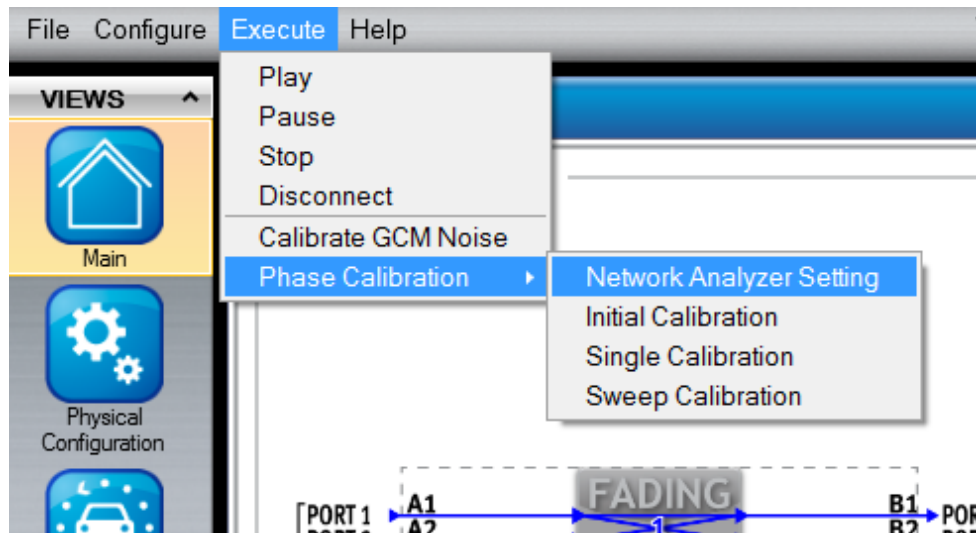

Figure 3-12: Connecting the Network Analyzer
12. Connect the user-supplied network analyzer by selecting **Execute>Phase Calibration>Network Analyzer Setting**, as shown in Figure 3-12.